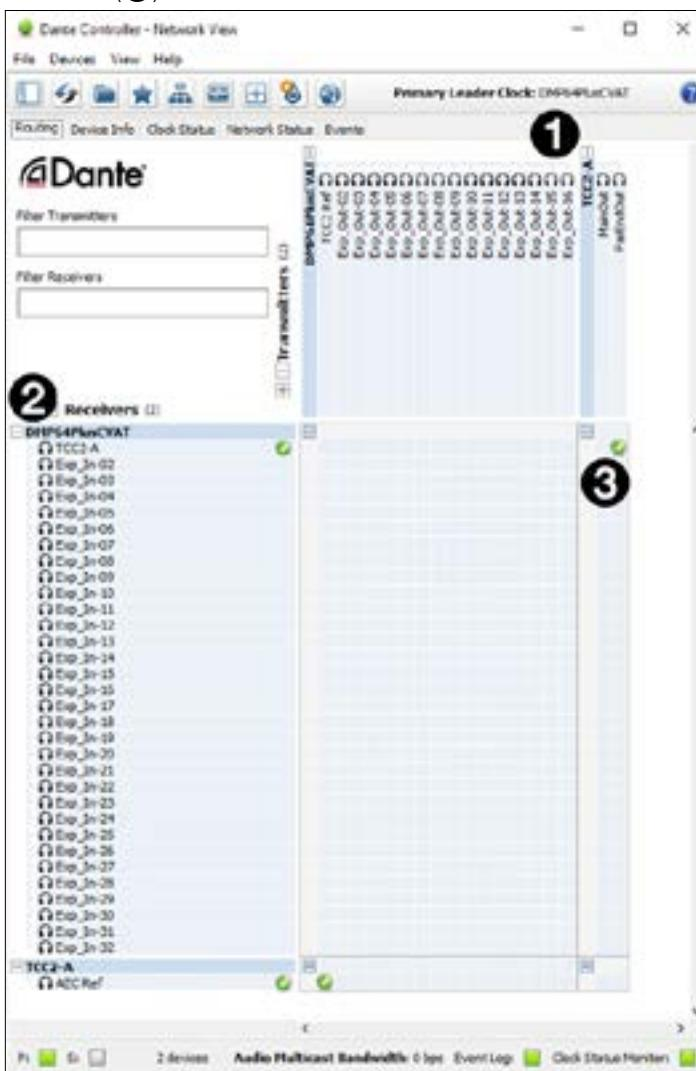

Figure 14. Network View Screen
12. To show the transmitters of a Dante device, click the + box next to the desired device in the **Dante Transmitters** panel, such as TCC2-A (see figure 14, ①). The + sign changes to a - sign when the device expands.
13. To show the receivers of a Dante device, click the + box next to the desired device in the **Dante Receivers** panel, such as DMP64PlusCVAT (②).
14. Click the intersections of the desired subscriptions between transmitter and receiver channels (③).